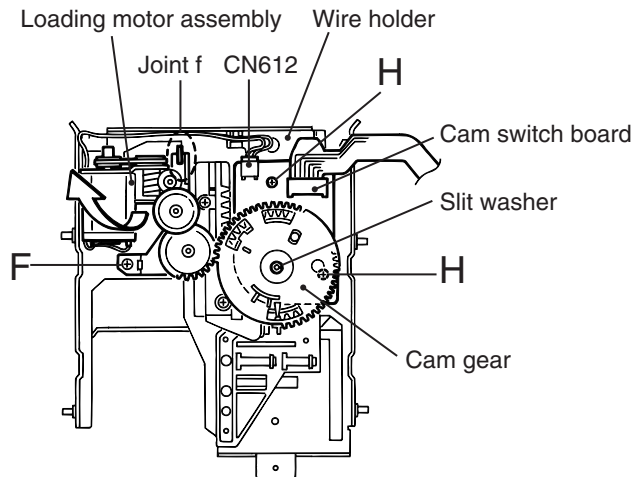

Fig.12
(See Fig.12 and 13)
■ **Removing the cam gear and the cam switch board** (See Fig.12)